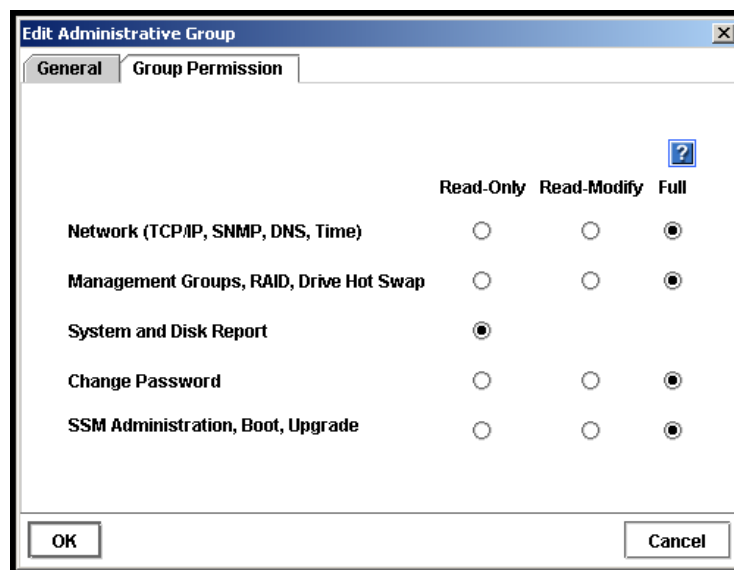

Figure 83. Adding Permissions to Administrative Groups
1. From the Create Administrative Group window, click the Group Permission tab to bring it to the front, shown in Figure 83.